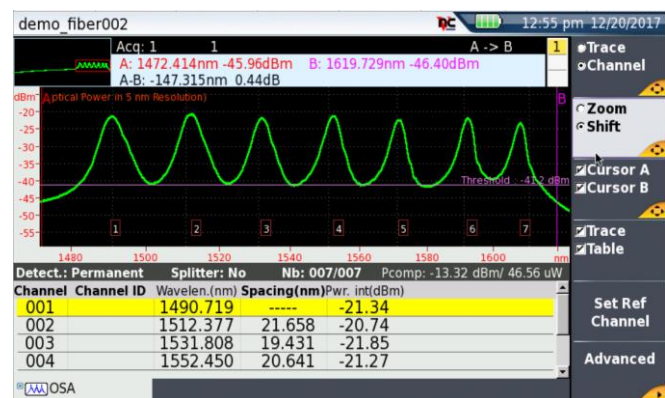

Figure 8: Results
1. Tap the **START/STOP** button to start the test. The **COSA-4055** will sweep the entire CWDM wavelength range. Results will be shown in graphical and tabular formats as shown in *Figure 8*.